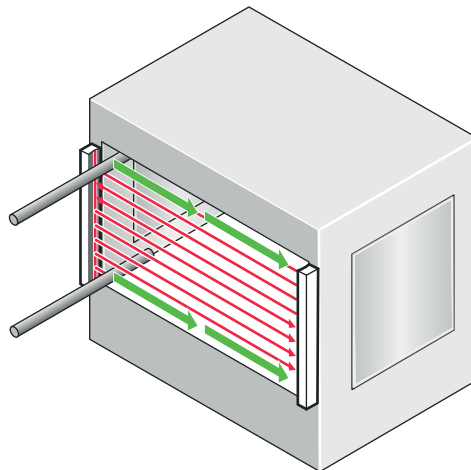

Figure 23: Test rod check: Step 3
3. Then, guide the test rod along the edges of the area to be protected, as indicated by the arrow, see figure 23.